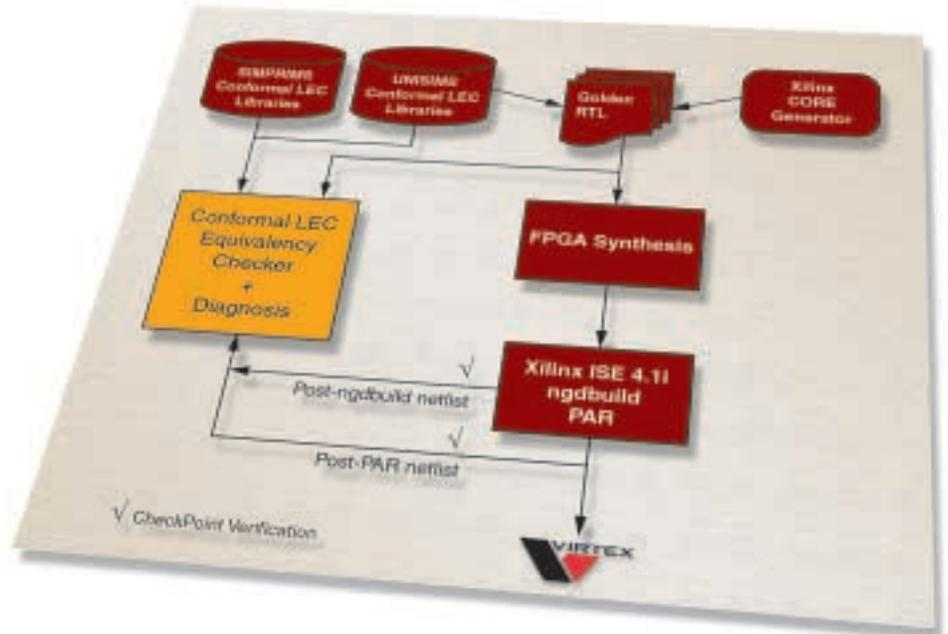

Figure 1 - FPGA equivalency checking flow with ISE 4.1i
- Compare a Golden RTL model against the final post place-and-route (PAR) netlist (Figure 1). This is the final functional verification step before proceeding with programming the device.